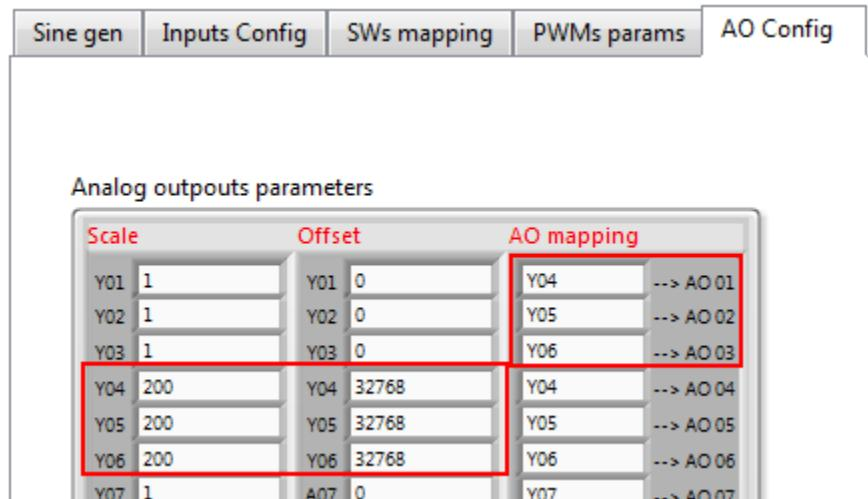

Figure 73: Scale, offset and mapping of load currents of Inverter (Y04, Y05 and Y06)
Step 6: From the **AO Config** tab, modify scale and offset of Y04, Y05 and Y06 (load currents of inverter). Additionally, route Y04, Y05 and Y06 to AO01, AO02 and AO03, respectively (See Figure 73).